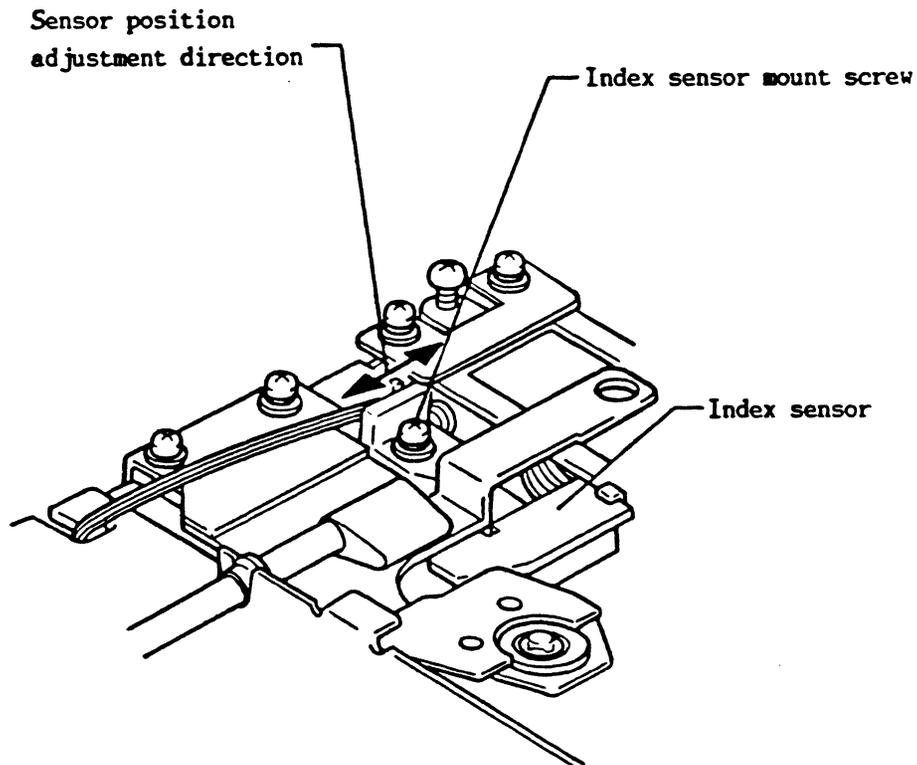

Fig. 421 Index Sensor Adjustment
- (6) Check if the true value of the index burst timing is within the range $200 \pm 200 \mu \text{ sec}$.
- (7) When the value is not within the specified range of item (6), adjust the index sensor position using the following procedure.
- (a) Loosen the index sensor PWB mount screw (refer to Fig.421) and adjust so that the true value of the index burst timing is within the specified range of the item (6).
- (b) After tightening the mount screw to the specified torque of item (6), repeat the adjustment until the true value of the index burst timing is within the specified range.
- (8) Remove the alignment disk.